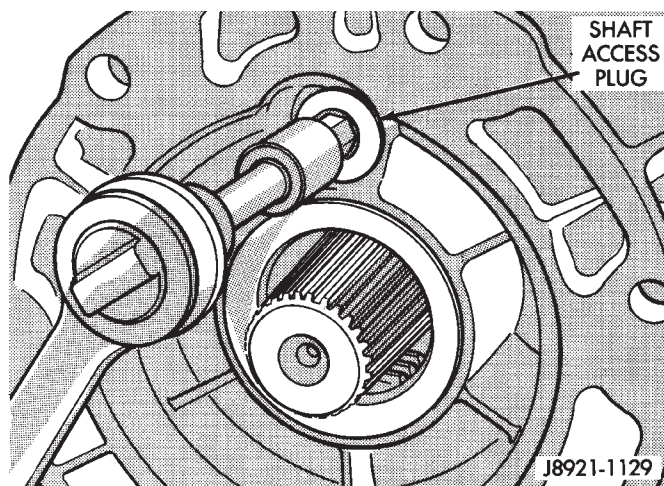

Fig. 126 Access Plug Installation
(27) Install and tighten shift arm shaft access plug to 19 N•m (14 ft. lbs.) torque (Fig. 126).